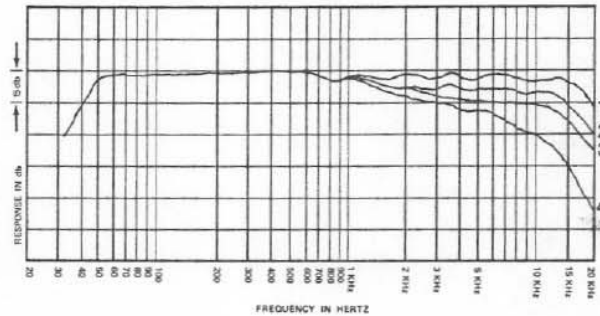
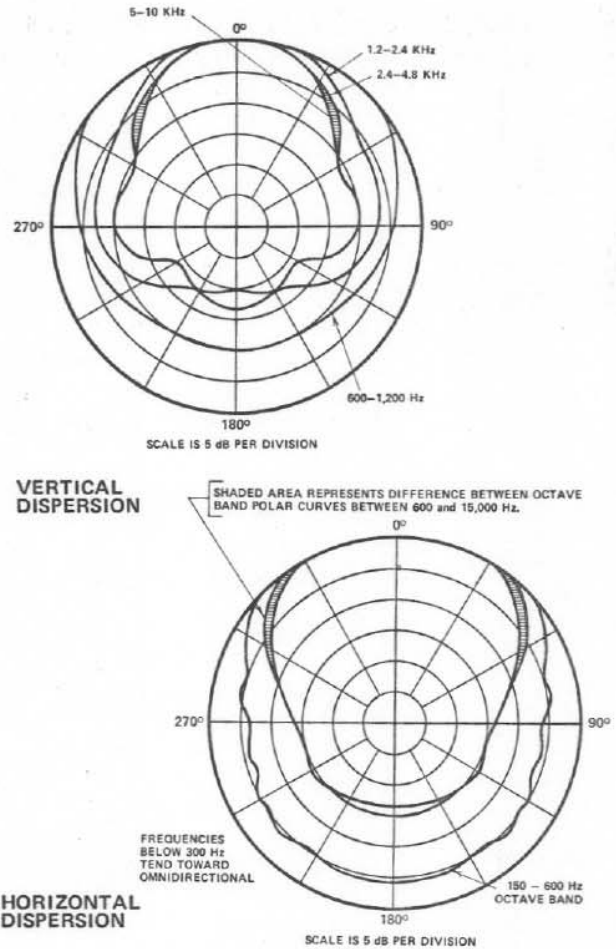

FIGURE 1—Frequency Response
FIGURE 2—Frequency Dispersion
The midrange and tweeter horn designs represent the first significantly new sectoral design in 25 years. With vertical dispersion of greater than 60-degrees at all frequencies and extremely stable horizontal dispersion at 120-degrees virtually throughout the frequency range, these horns offer a uniformity of coverage which practically eliminate "hot spots" and "dead areas" in the control room or elsewhere (See Figure 2). Totally new drivers are associated with the midrange and high-frequency components to offer both ruggedness and linear response.
- Frequency Response: 50 to 18,000 Hz (See Fig. 1)
Accurate system layout with the Sentry IV may be made by referring to the axial frequency response of Figure 1 as well as the octave band random noise polar response of Figure 2. From these figures, the sound pressure level available at a distance of 4 feet with full power (50 watts) in may be determined for any octave band at any angle.
Level Variations with Distance: Reverberant Environments Indoors: Where sound is reflected from walls and other surfaces and the environment is reverberant, there is a point (the "critical distance") beyond which the "reverberant field" dominates and sound pressure is nearly constant. This distance is typically ten to twenty-five feet from the speaker and is shortest for the most reverberant rooms. Because of the reverberant field, the sound pressure level obtainable in a room is much higher and more constant than that predicted by the inverse square law alone. However, the information in Figures 1 and 2 is still necessary in order to obtain satisfactory distribution of the sound direct from the loudspeaker ("direct field"), which still follows the inverse square law.